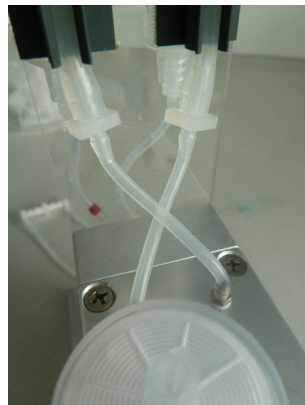

Figure 52: Crossing the tubing above the valve block (valve 1).
9. Keep the tubing above the reservoirs crossed, and cross the tubing on the valve block (Figure 52).